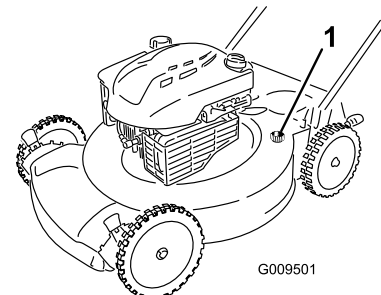

Figure 23
5. Attach a garden hose that is connected to a water supply to the washout port (Figure 23).